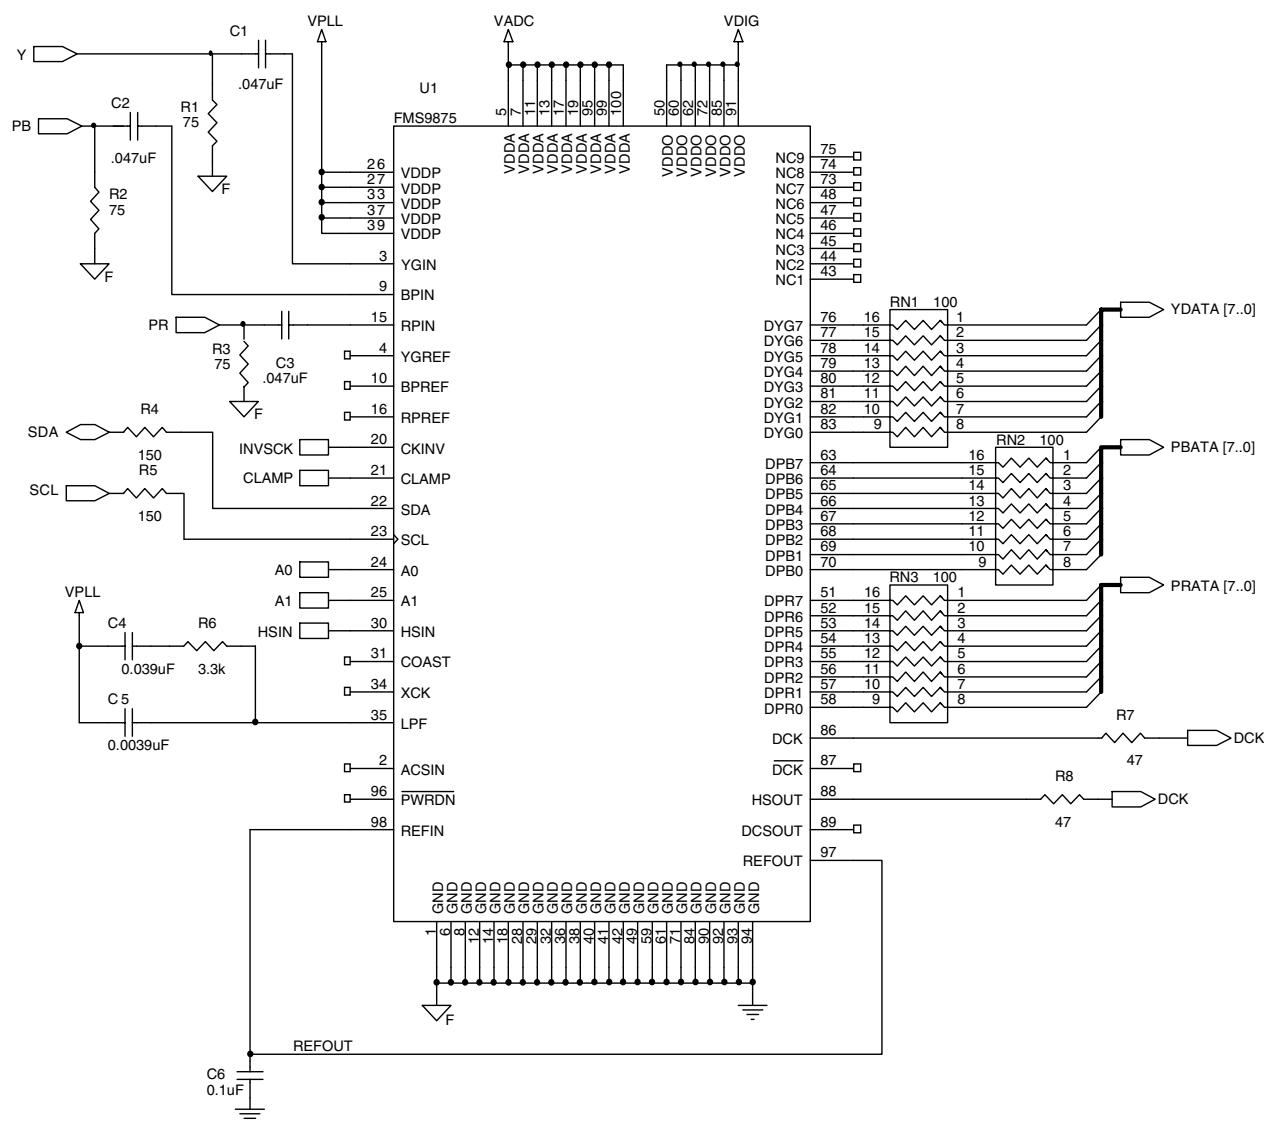

Figure 24. Schematic, VGA Digitizer, AC Coupled RGB
Shown in Figure 24 is an implementation of a video digitizer with AC coupled YP_BP_R inputs. Horizontal sync input.
3. Each V_{DDP}/GND pin pair: 26&27/28, 33/32, 37/38, and 39/40 should be decoupled with a either a 0.01 or 0.1 μF capacitor (see Figure 24).